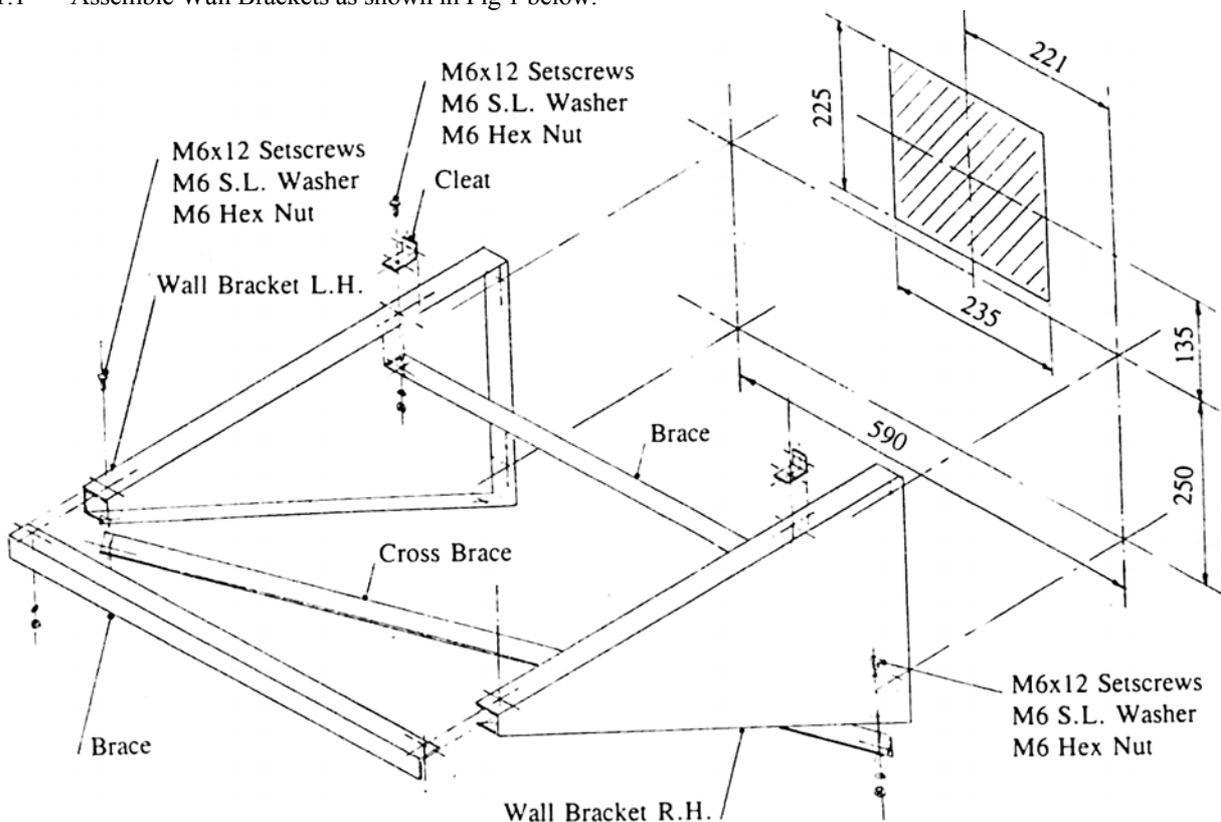

Fig. 1
3.1.1 Assemble Wall Brackets as shown in Fig 1 below.
3.1.2 Determine the desired mounting height for the appliance and mark on the wall of the building the positions for the Wall Brackets fixing screws, together with the co-ordinates of the centre of the aperture to be cut in the wall for the Insulated Duct, all as shown in fig 1 above. Cut aperture for the Insulated Duct to dimensions of duct shown, plus a maximum clearance all round of 20mm ie. 275 x 265 max. Drill suitable size holes for the Wall Bracket fixing screws (not provided). Attach the Wall Bracket assembly to the wall using suitable screws, ensuring that it is level.